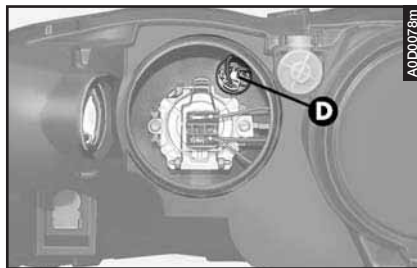

fig. 46
– Press the two retaining tabs and remove the bulb holder (**D-fig. 46**).